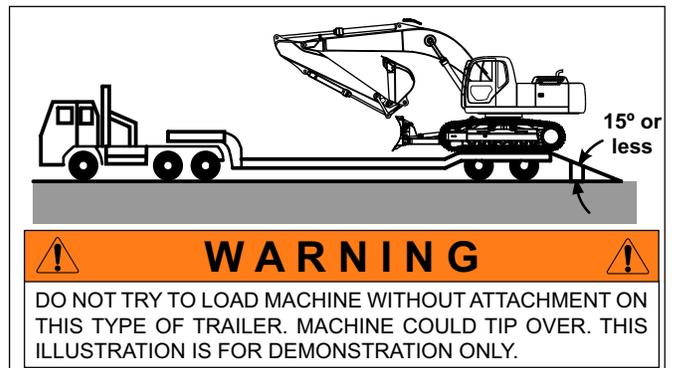

FIGURE 5.3B
- Raise the attachments and slowly travel machine up trailer ramps and over rear axles of trailer, see Fig. 5.3B.